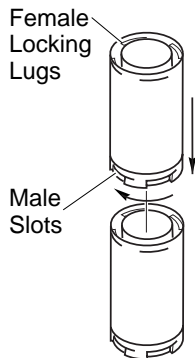

Figure 11 - Rigid Vent Pipe Connections
2. Rigid vent pipes and fittings have special twist-lock connections. Assemble the desired combination of pipe and elbows to the appliance adaptor with pipe seams oriented towards the wall or floor. **Twist-lock Procedure:** The female ends of the pipes and fittings have four locking lugs (indentations). These lugs will slide straight into matching slots on the male ends of adjacent pipes and fittings. (All connections must be sealed with high temperature silicone sealant as specified in the second warning statement on page 7.) Push the pipe sections together and twist one section clockwise approximately one-quarter turn until the sections are fully locked. See Figure 11, page 9. *Note:* Horizontal runs of vent must be supported every three feet. Use wall straps for this purpose.
2. Assemble the desired lengths of pipe and elbows necessary to reach from the fireplace flue up through the firestop. All connections must be sealed with high temperature silicone sealant as specified in the second warning statement on page 7. Be sure all pipe and elbow connections are fully twist-locked (see Figure 11, page 9).